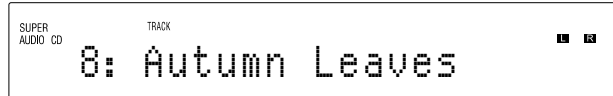

Figure 19
*ton after the Track has started to play. Refer to figures 19 and 21.*